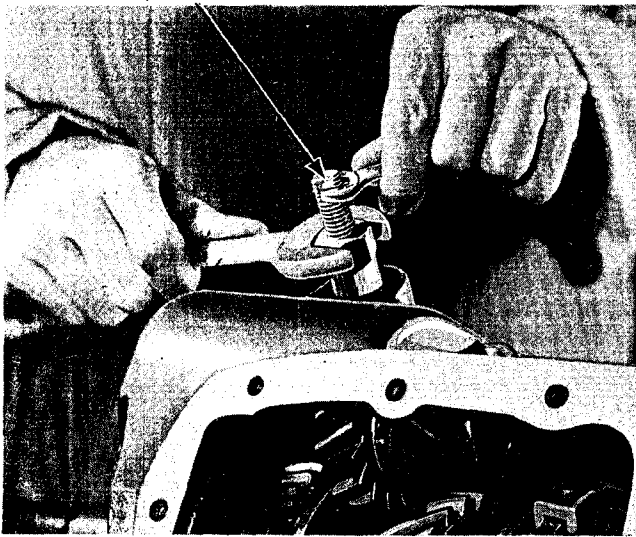

Fig. 21 Removal of Pin for Low and Reverse Shifter Shaft
8. Remove the pin that holds the low and reverse shifter fork and shaft together, using special tool J-806 to pull pin out through filler plug hole in case, as shown in Plate 56, Fig. 21.